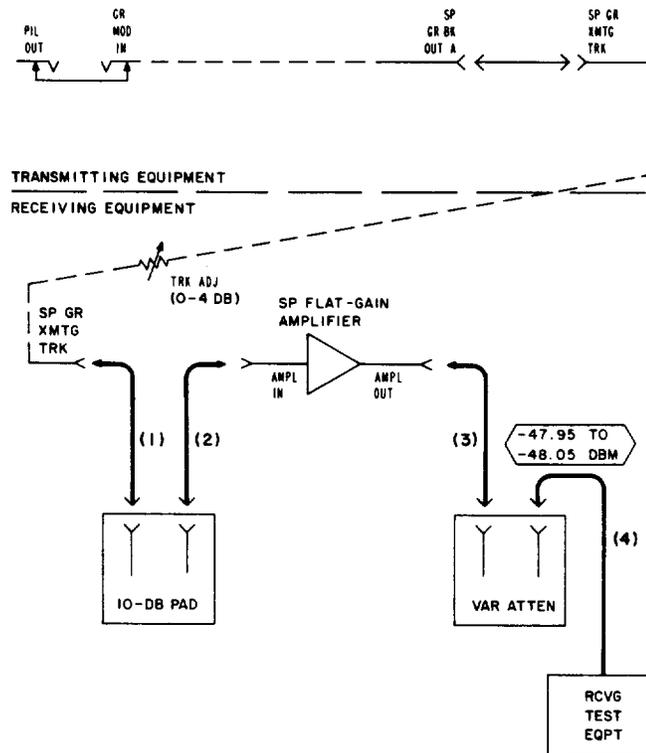
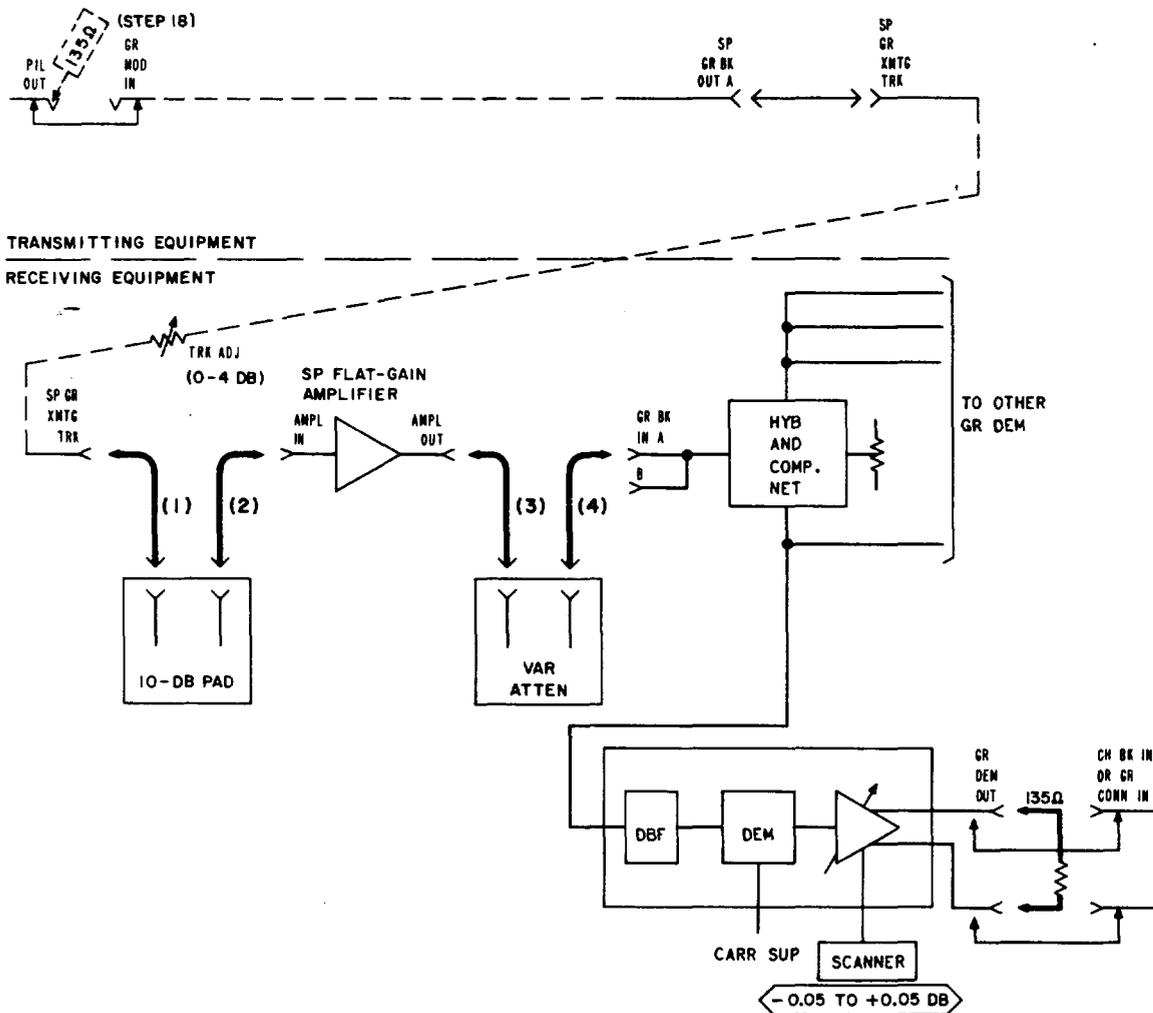

Fig. 1—Pilot Level Test Connections
Fig. 2—Test Connections for Amplifier Adjustments
4 Make the test connections shown in Fig. 1.
| 7 | <p>Remove patch (4) in Fig. 1 and make patch (4) in Fig. 2. Also, insert a 135-ohm termination in the GR DEM OUT jack.</p> |